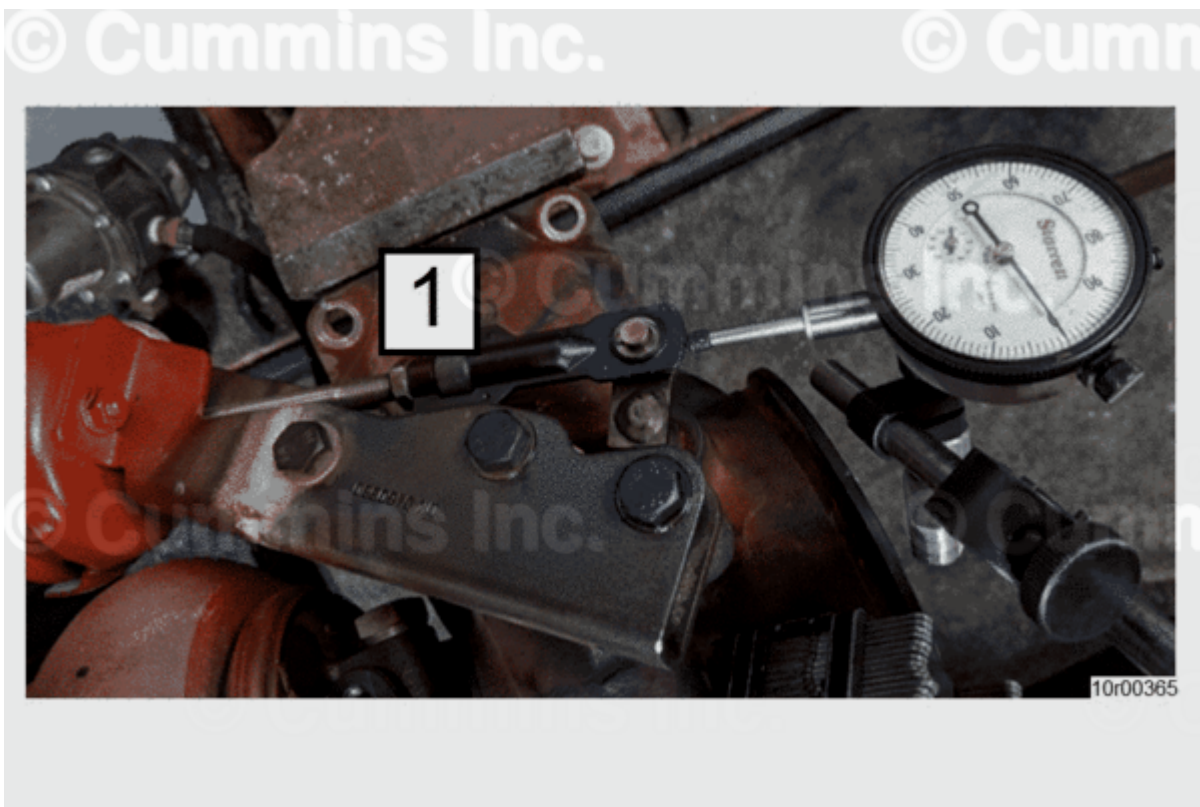

Figure 3, Dial Gauge Indicator Set Up at Turbocharger Actuator Rod End.
8. Set up dial gauge indicator parallel to actuator rod and zero it at the rod end while verifying the wastegate valve is fully closed by adjusting the end link screw (Shown in Figure 3, Item 1 below) with the actuator pressure kept at 0 kPa [0 psi] like in Figure 3 below.